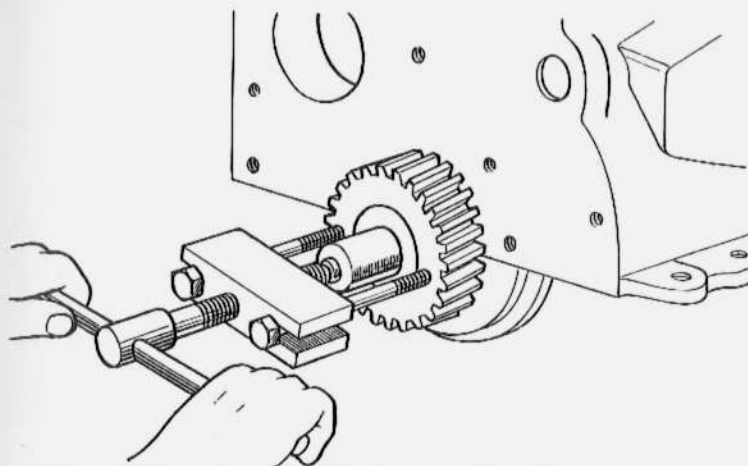

Figure 51 - Removing Crankshaft Gear
(28) Pull the crankshaft gear with gear puller (BX SST-1022) by attaching it to the gear and turning puller handle (Fig. 51).